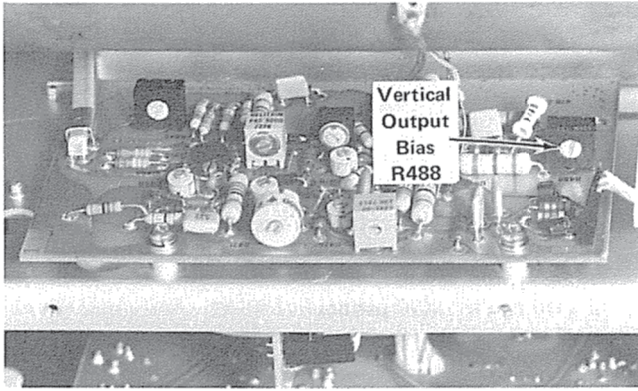

Fig. 5-5. Location of Vertical Output Bias adjustment.
c. **ADJUST**—Vertical Output Bias adjustment, R488 (see Fig. 5-5) for maximum deflection of the signal.